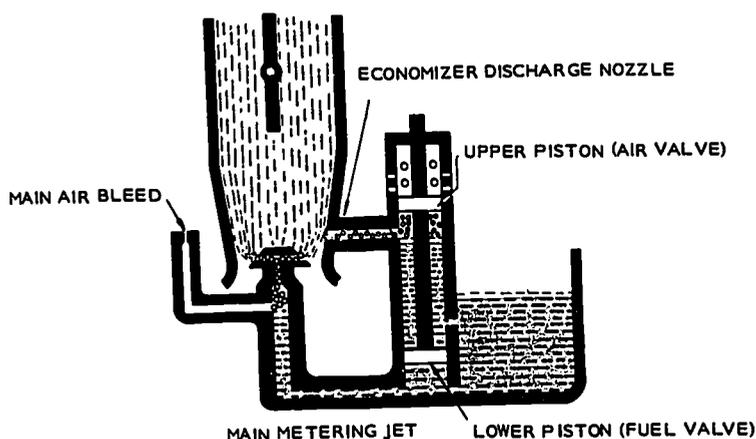

Figure 15. The Economizer System.
*The economizer.*—This device is designed to provide additional fuel to the fuel-air mixture for high-speed operation. The economizer is a valve which is closed at cruising speeds but open at high speeds. Its controls are connected to the throttle controls (Fig. 15). The economizer is so named because it allows the pilot to use the leanest mixture which will maintain the maximum power output at any desired rpm (revolutions per minute of the crankshaft).